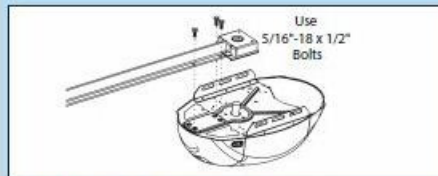

FIG. 1-5 Rail - Power head assembly.
1. Attach rail assembly to power head by aligning the sprocket onto the motor shaft. Use (3) bolts, 5/16 -18 x 1/2" (Fig. 1-5).